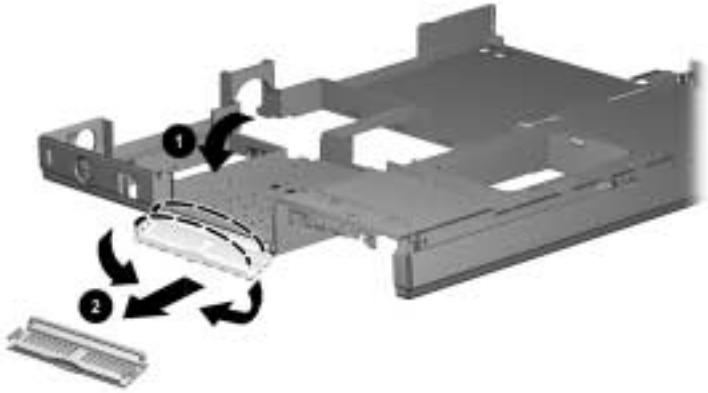

Figure 5-33. Removing the PC Card Door
If necessary, remove the PC Card door by partially opening the door ❶, flexing the middle of the door away from the computer ❷, and removing the door (Figure 5-33).